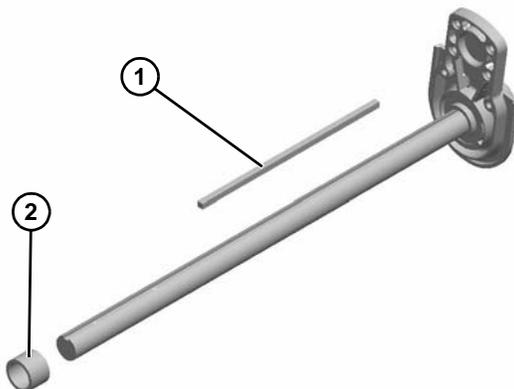

Figure 43
- Remove drive spindle key (Figure 43, item 1) and tube spacer (Figure 43, item 2).